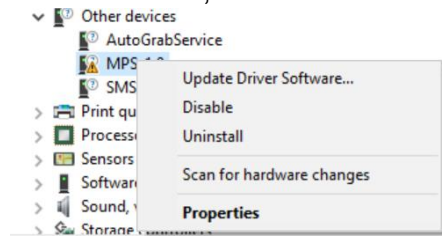

Figure 19
1. Open the Device Manager and select update driver software (see figure 19).